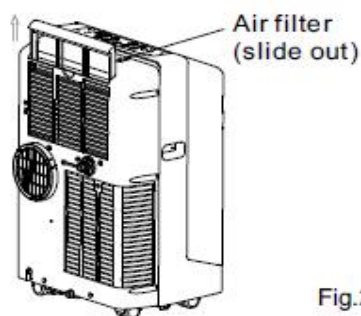

Fig.26
- Switch off the air conditioner and pull out the upper air filter from the unit (Fig 26)